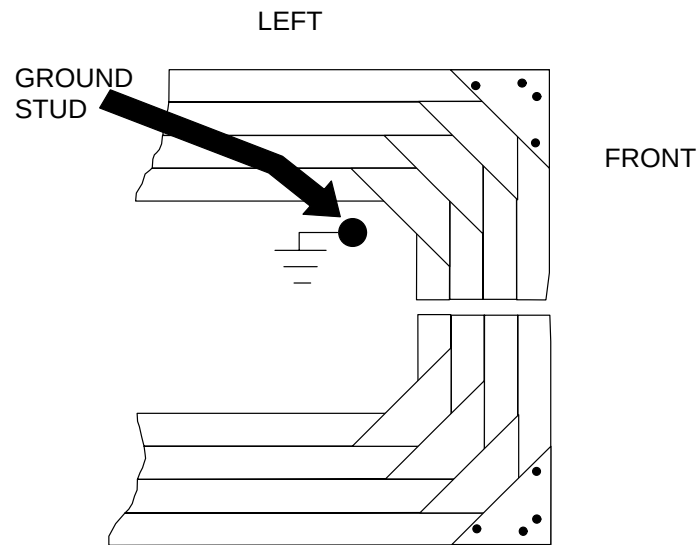

FIGURE 42 PATIENT SUPPORT GROUND STUD
3. Install the safety ground (green & yellow striped wire) from the Gantry to the Patient Support. ***This connection must be made in the Patient Support, not in the cable trough.*** Remove all wires from the grounding stud in the Patient Support. Put the incoming wire from the Gantry on the bottom. Reinstall the ground wires. Connect ground wire from the Patient Support ground stud to the ground stud on the cable trough cover. Refer to Figure 42.